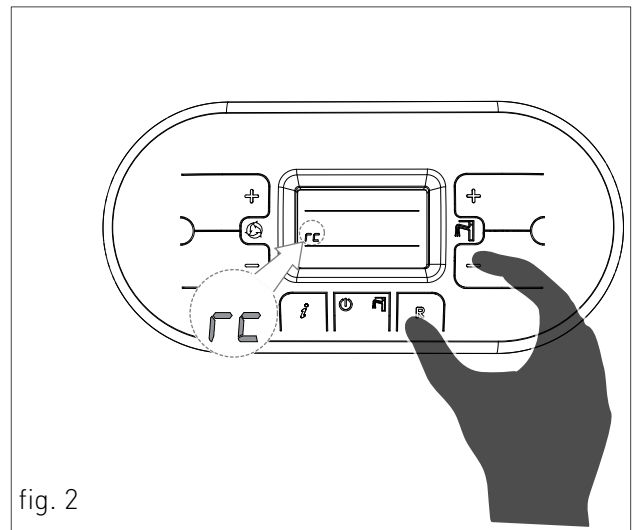

fig. 2
- > activate the recirculation mode by pressing simultaneously the **R** and **-** buttons of the control panel (fig. 2). The activation of the recirculation mode is displayed onto the control panel by means of the 'rc'.
- › Disconnect the two faston of the recirculation probe (see B-fig. 2), and connect them onto the optional probe meant for the storage (part number: 40-00324, see fig. 2). Insert this latter probe into the sensor-holder of the storage tank.